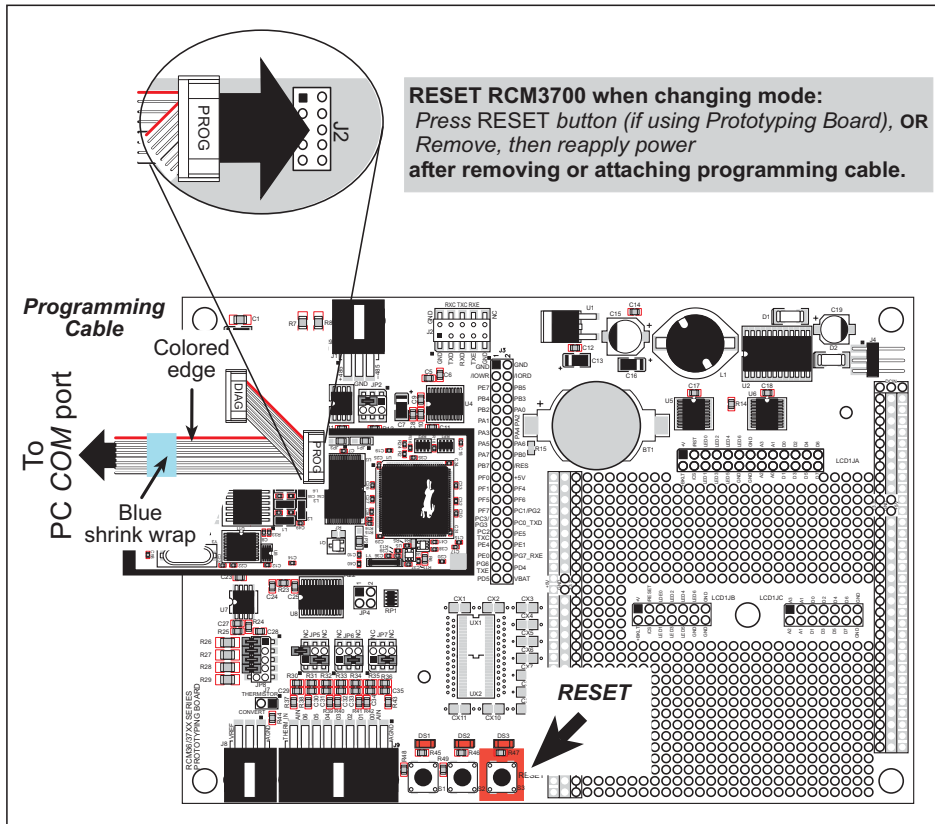

Figure 9. Switching Between Program Mode and Run Mode
2. Reset the RCM3700. You may do this as explained in Figure 9.